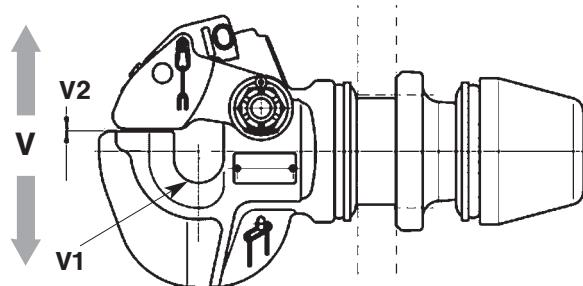

Fig. 11
- Move coupling head up and down with appropriate tool (**V**) (s. Fig. 11):